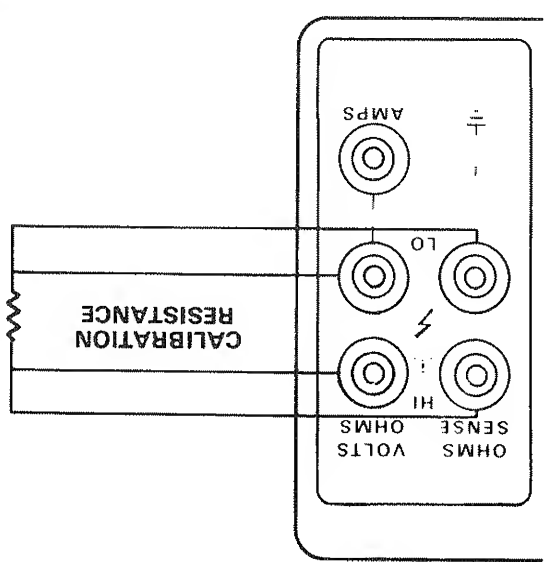

Figure 5-2. Connections for Verification of 20 Ω , 200 Ω , and 2k Ω Ranges
3. Connect a 19 Ω calibration resistor to the instrument as shown in Figure 5-2. Note that the 4-terminal configuration is used for this measurement. Place the instrument on the 20 Ω range and check to see that the displayed reading is within the limits in Table 5-3.
4. Connect a 190 Ω calibration resistor to the instrument as shown in Figure 5-2. Switch the instrument to the 200 Ω range and see that the displayed reading is within the limits set in Table 5-3.
5. Connect a 1.9k Ω calibration resistor to the instrument as shown in Figure 5-2. Switch the instrument to the 2k Ω range and check to see that the reading is within pre-scribed limits.
2. Connect the DC current calibrator to the Model 195A as shown in Figure 5-2. The HI side of the calibrator output should be connected to the AMPS terminal and the LO side calibrator output should be connected to the VOLTS OHMS LO terminal. Make sure the rear panel INPUTS switch selects the front panel terminals. Set the calibrator output to 0.0000 and enable the zero mode.